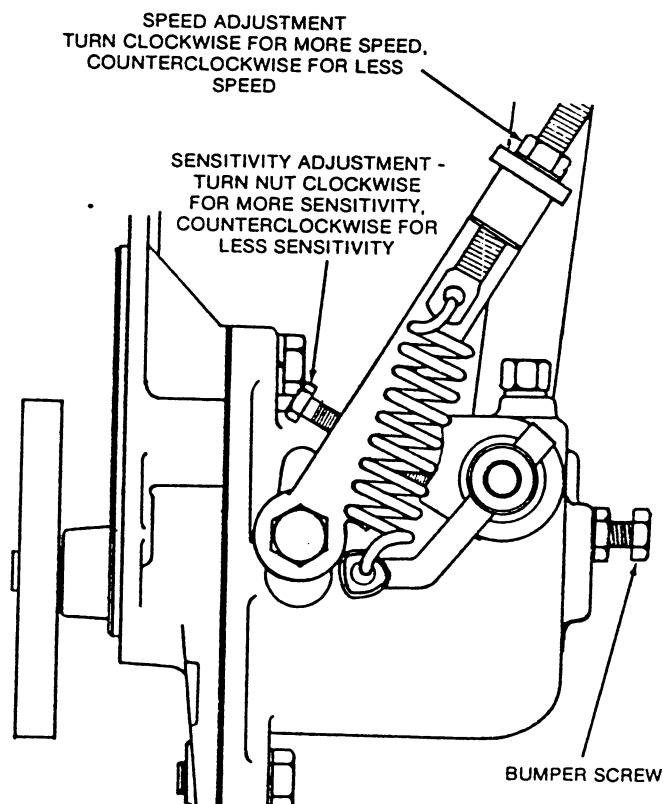

FIGURE 24. GOVERNOR
1. With the unit stopped, see that the linkage between the governor arm and the carburetor throttle is adjusted to the proper length for fully open carburetor position. See Figure 24.